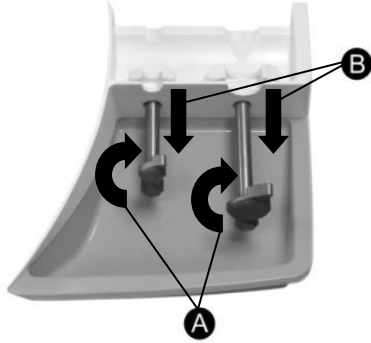

Figure 6. Within the syringe receptacles, slide the open plunger drivers to the lowest points.
9. Prepare the syringe pumps on the front of the instrument by rotating the plunger drivers to the open position (see Figure 6, A), while sliding them to the lowest points (see Figure 6, B).